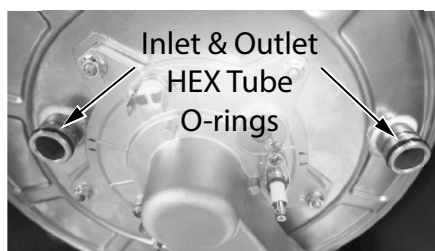

Figure 27 - Install new O-rings
- 52** Locate the two (2) O-rings provided in the kit. Install O-rings to the inlet and outlet HEX tube connections as shown in Figure 27.